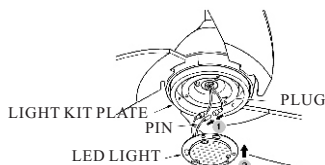

FIG.17
4. Plug together light kit wires from fan to light kit wires from LED light (see Fig.17)